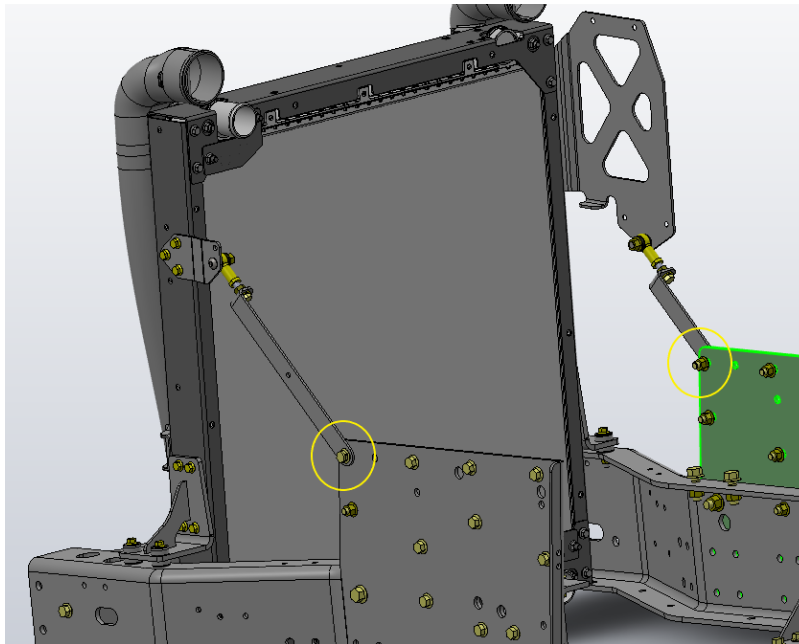

Figure 4.1
- 3) Remove radiator stay rod lower bolts and move stay rods out of the way. *See Figure 4.1*